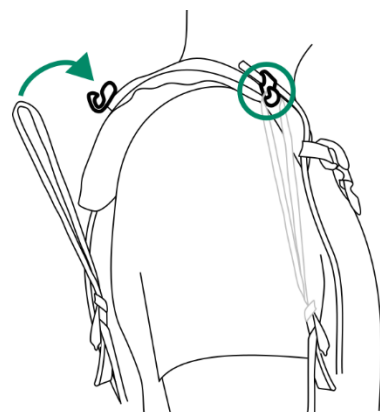

Figure 15
5. Attach the elastic bands to the hooks of the bracket, both on the front and the back (Fig. 15).